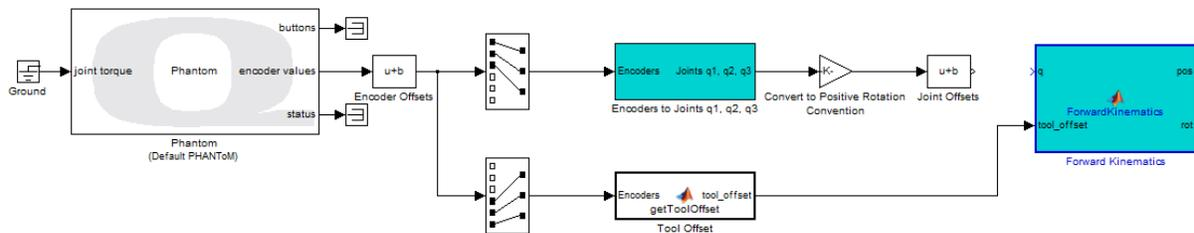

Figure 8.1: Modified forward kinematics model
1. Open your Simulink model **Forward_Kinematics.mdl**. Delete all of the displays and disconnect the **Bias** block from the **MATLAB Function** block. Your model should look as shown in Figure 8.1. Save your model as **PreLab_Jacobian.mdl**.